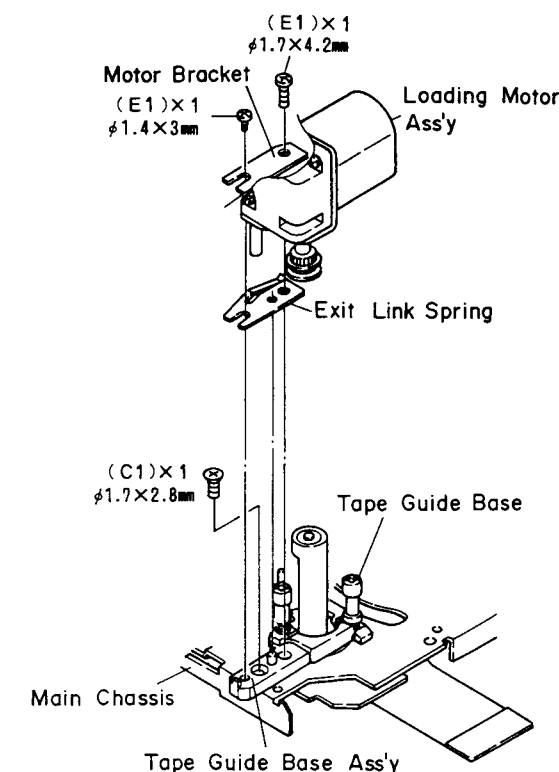

Figure 28-1
REPLACING THE CAPSTAN MOTOR ASSEMBLY AND CAPSTAN BELT (Fig. 28-1, 28-2, 29-1)
2. Remove the loading motor assembly set screw (E1), 2 pcs. (Fig. 28-1)
3. Remove the loading motor assembly from the tape guide base assembly. (Fig. 28-1)
5. Remove the tape guide base assembly set screw (C1), 1 pc., and remove the tape guide base assembly. (Fig. 28-1)